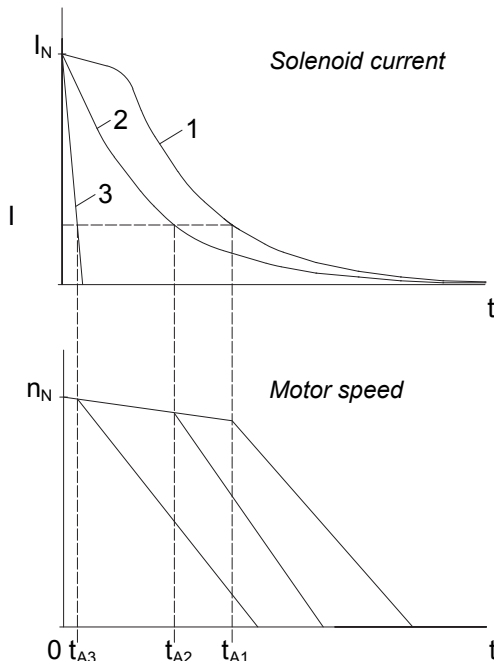

Figure 3: Development of the solenoid current and the motor speed after AC (1, 2) and DC (3) disconnection
a) Rectifier supply from the motor terminal board (Figure 3, graph 1)
- b) Separate rectifier supply (Figure 3, graph 2)
4.1.2.2 Interruption in the DC switching circuit of the solenoid (Figure 3, graph 3)